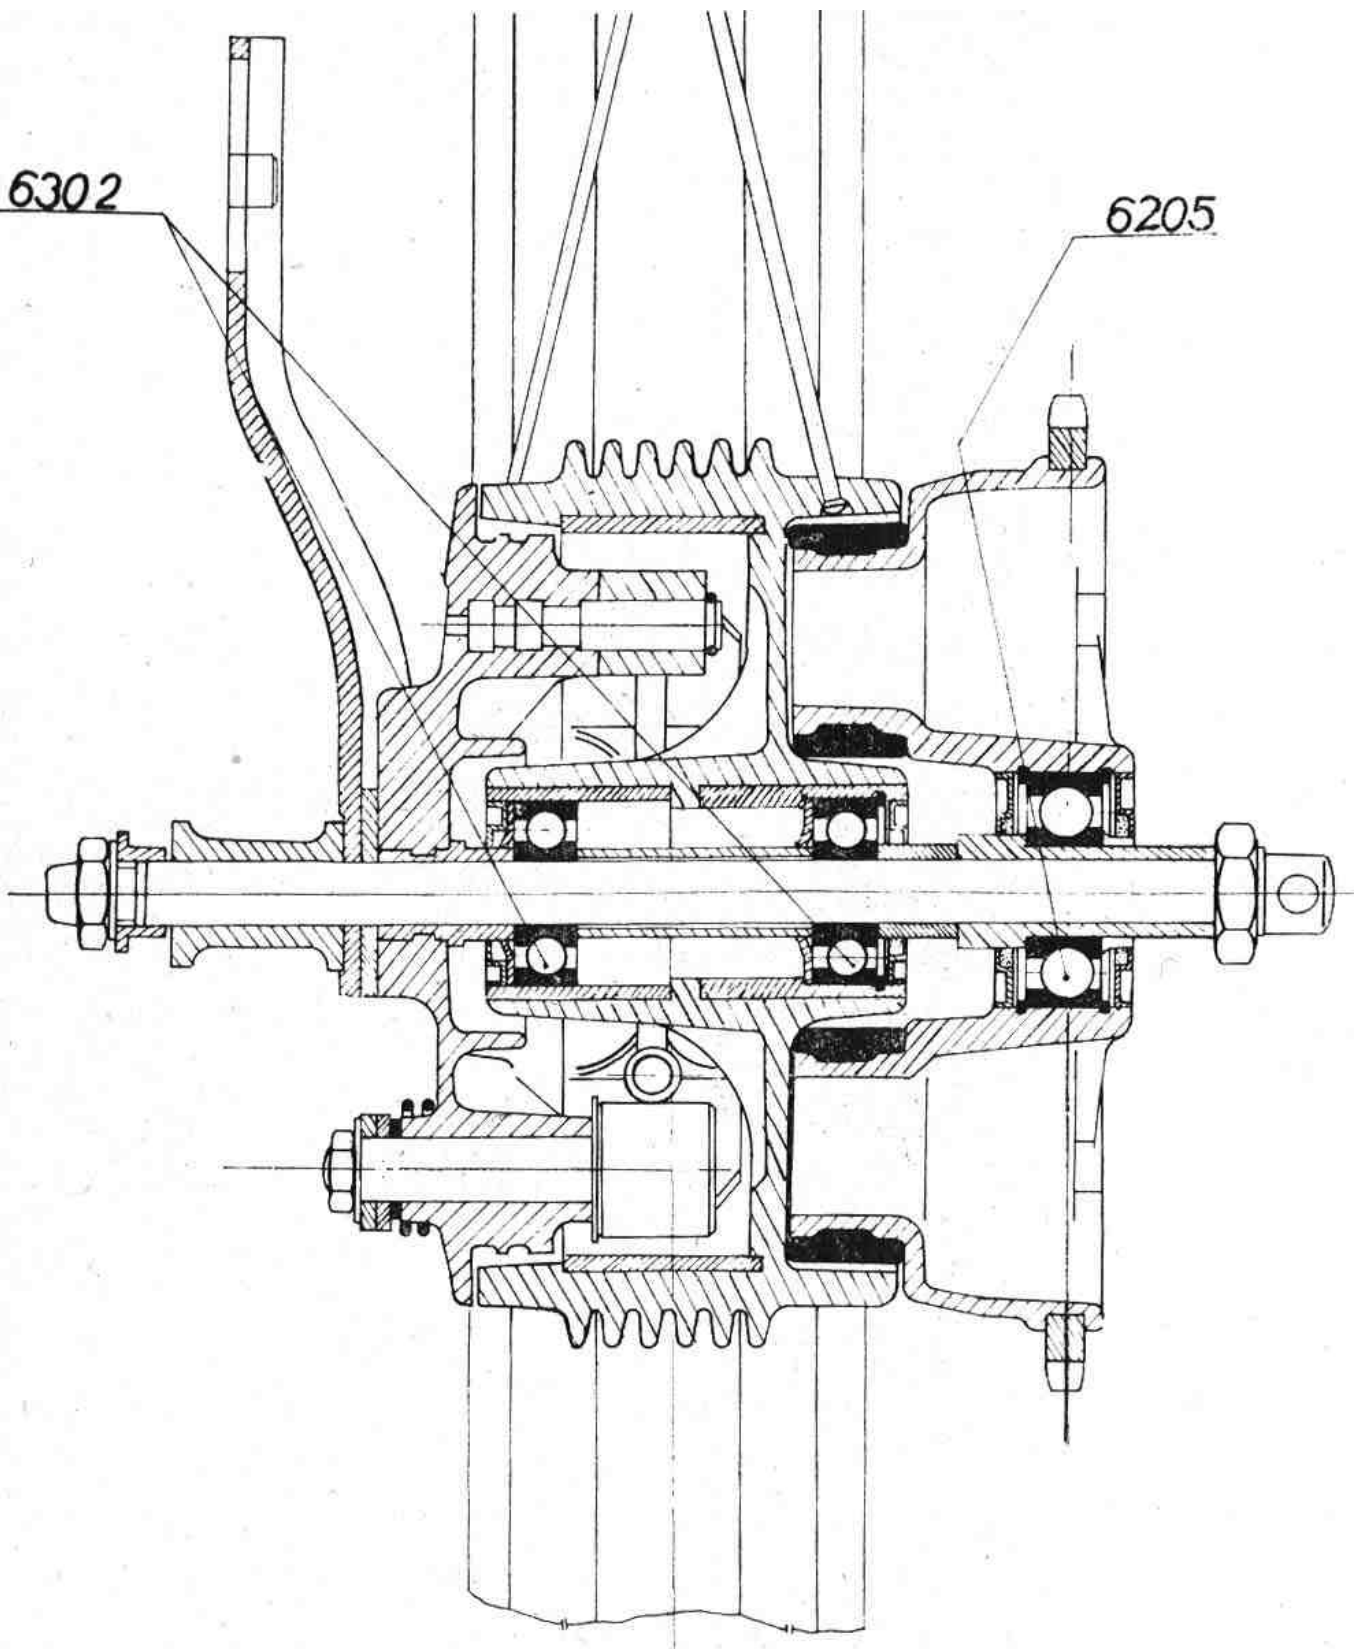

Fig. 37 – Sectional view of rear wheel
5. REPLACEMENT OF CHAIN WHEEL BEARING (Fig. 37)